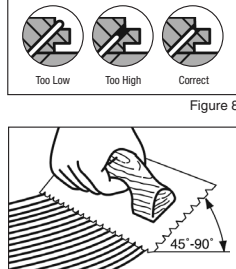

Figure 9
- Hold trowel at a minimum 45° angle (Figure 9) firmly against the subfloor. The trowel will leave ridges of adhesive and very little adhesive between the ridges. This method will allow you to still see the chalk lines between the ridges and provide the recommended spread rate.